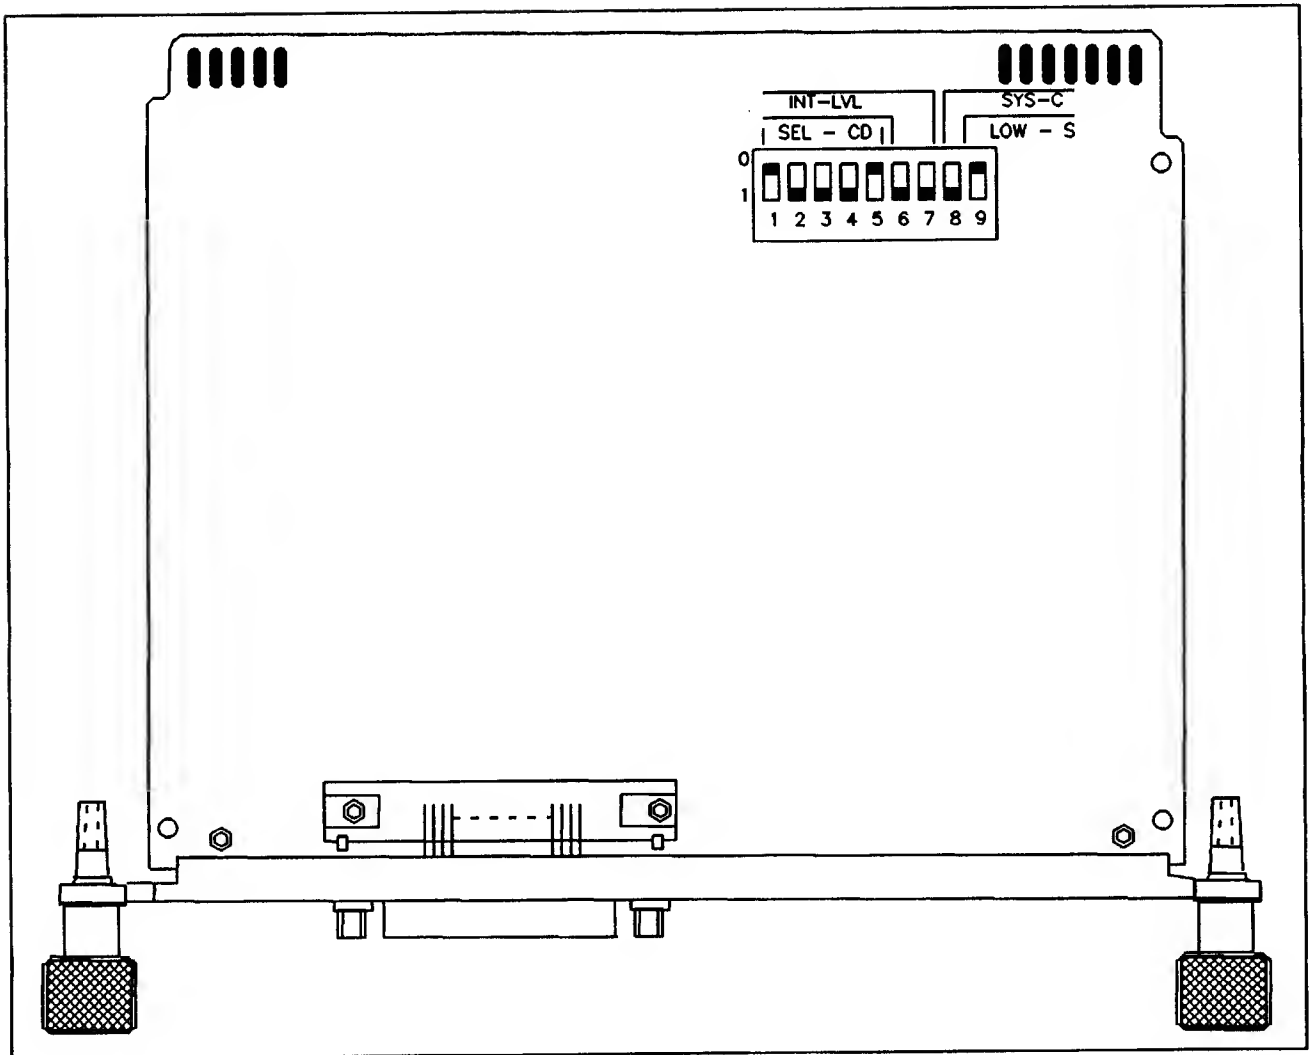

Figure 3-1. Switch Locations
One bank of nine switches are used to set various configuration options on the disc interface card. The location of the switches is shown in figure 3-1. To set the switches, use a ball-point pen or other pointed object. When a switch is OPEN, a binary one is programmed for that bit; if the switch is CLOSED, a binary zero is programmed for the bit. (The 1 and 0 positions are shown on figure 3-1.)
Switches 1 through 5 (see figure 3-1) are used to set the select code of the disc interface card. These switches are set to select code 14 (01110) by the factory. Interface select code settings are shown in table 3-2. Switch 1 sets the Most Significant Bit (MSB); switch 5 sets the Least Significant Bit (LSB).
Switches 6 and 7 (see figure 3-1) are used to set the hardware interrupt level. Switch 6 sets the MSB; switch 7 sets the LSB. The interrupt level can be set to any value from 3 through 6. The factory setting is 6 (11). Interrupt level switch settings are shown in table 3-3.